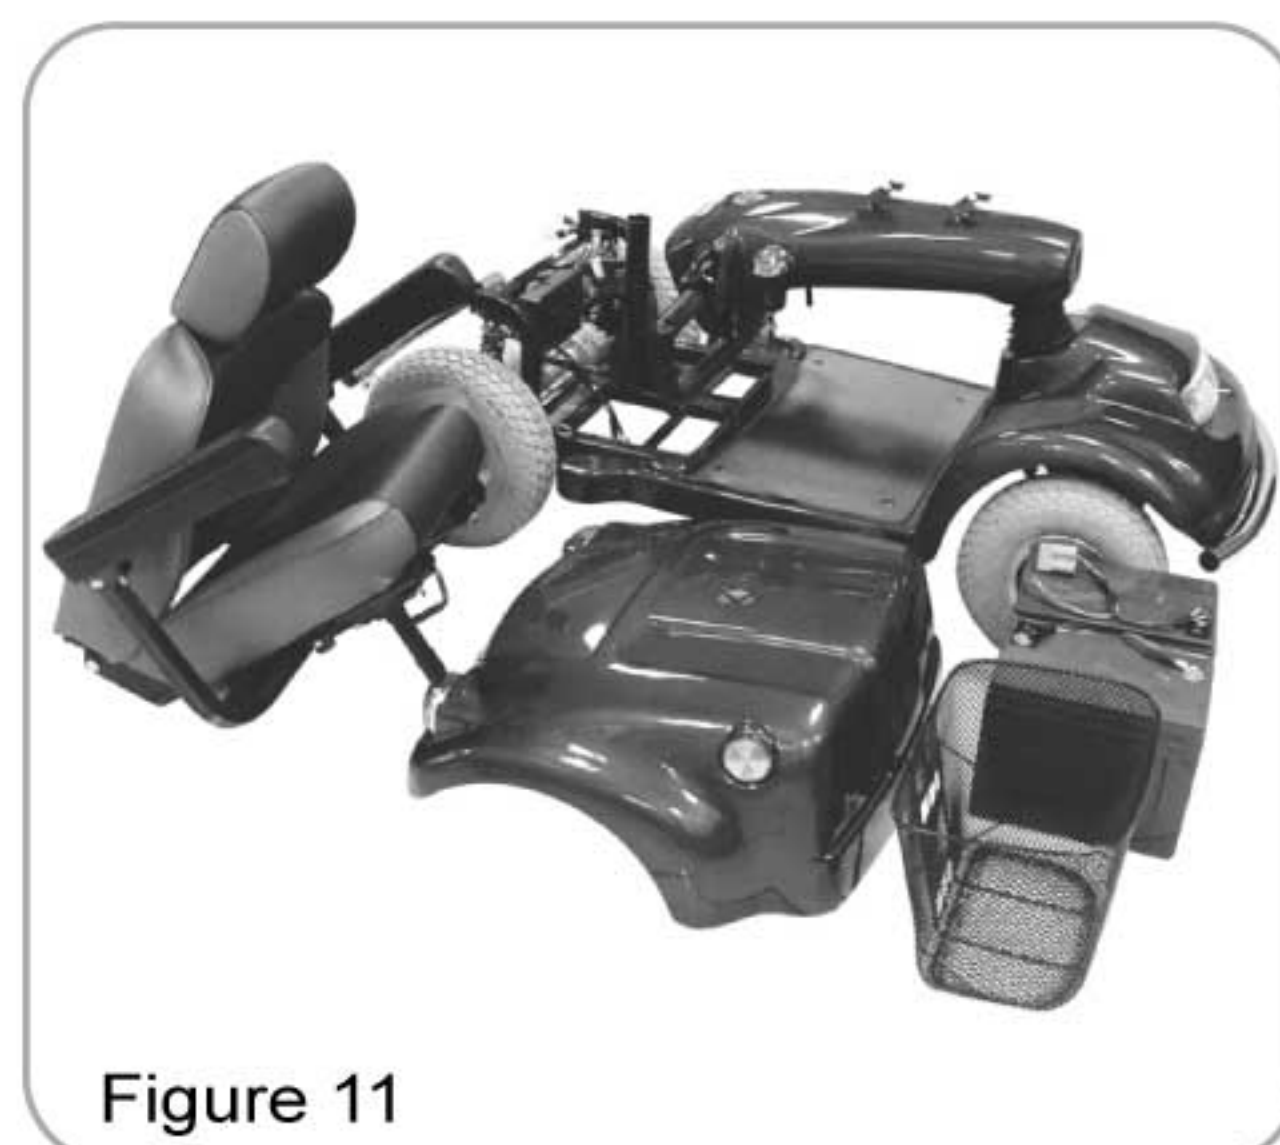

Figure 11
Following these instructions from figure (4) to figure (10) , will give 5 component assemblies that will enable the scooter to be transported in the boot of a motor vehicle. (See Fig. 11)